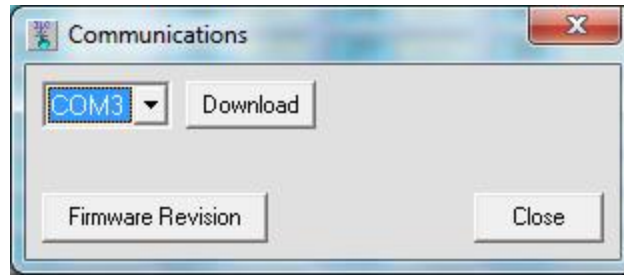

Figure 2 Download Screen
6. From the opening screen of the software, select "Download", select the communications port, and then click "Download" to send the program to the module as shown in Figure 2.